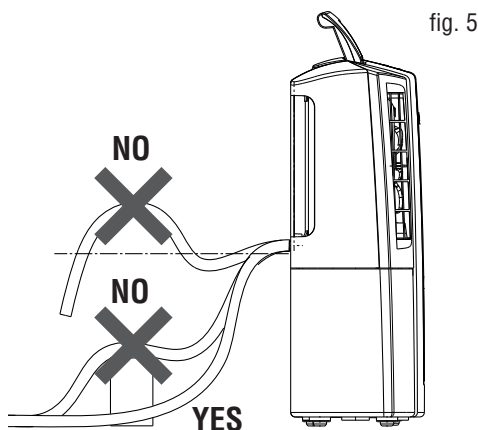

fig. 5
- 4) Make sure the end of the hose is no higher than the spout or water could remain in the tank. Make sure there are no kinks in the hose (Fig. 5).